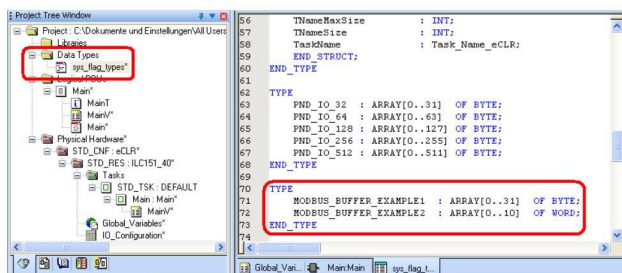

Figure 14 Creating data types
- Define the desired data types and their sizes as shown in Figure 14.